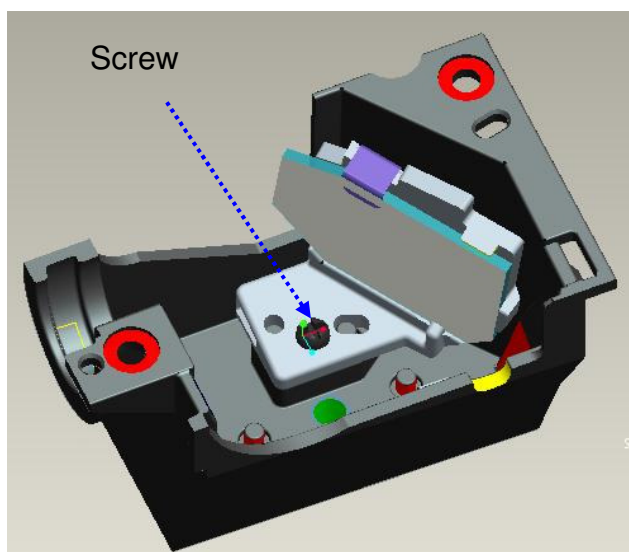

Fig. 3-7
- i. FM Module must be placed to fixed shaft and on the datum surface of “ILL SUB” and then lock with screw well (Fig. 3-7).